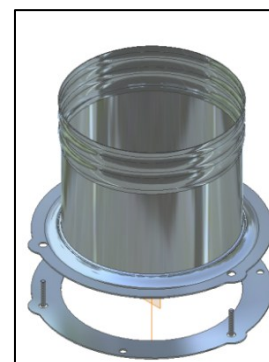

Figure 3-8: 6CON Liner Connector
The Elegance 42 fireplace can be connected to a masonry chimney that complies with current national and municipal building codes. A 6 inch chimney liner that complies with ULC S635 M2000 (Canada) or UL 1777 (US) standards must be installed within the existing masonry chimney. Note that the 6CON connector (manufactured by SUPREME FIREPLACES INC.) must be installed to connect the prefabricated chimney to the liner (6CON sold separately). Refer to figure 3-8.